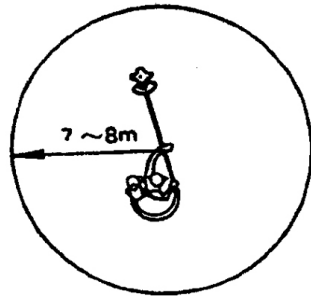

Fig. 15
- 3) Keep the onlookers out of the working area at least 7~8m(30ft). (Fig. 15)